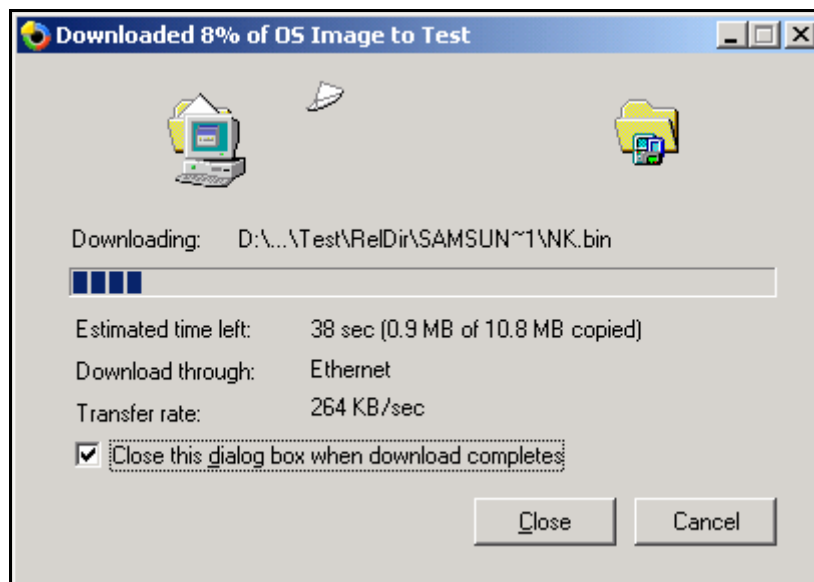

Figure 4-13 Downloading NK.bin to Target Board
18. In the DNW application window, please enter 'D' to download the OS Image. NK.bin image, which exists in 'X:\WINCE420\PUBLIC\ [Platform Name] \Reidir\SAMSUNG_SMDK2440_ARMV4Release' directory will start to download on to the target board through the Ethernet as shown in the figure 4-13.